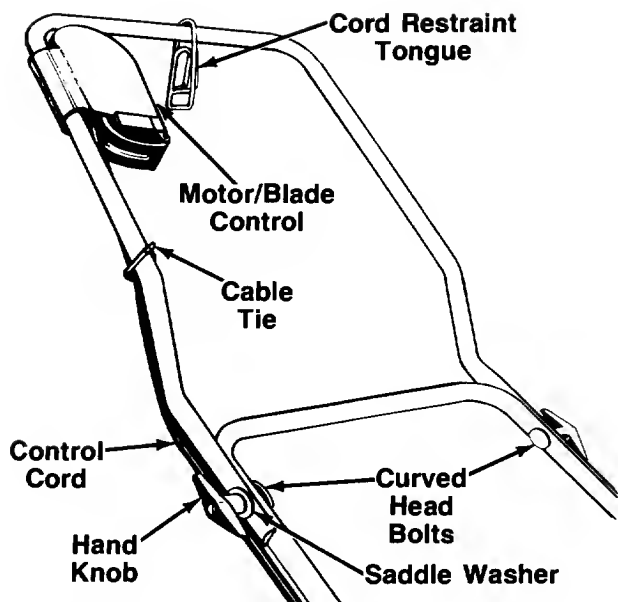

FIGURE 1.
- a. Slide cord restraint onto the top of upper handle, so the tongue of the cord restraint is away from the motor/blade control as shown in figure 1.
- b. Place the upper handle position over lower handle. Make certain the control cord is routed to the outside and below lower handle as shown in figure 1.
- Attach the control cord to the upper handle at the position shown in figure 1, using the cable tie provided.